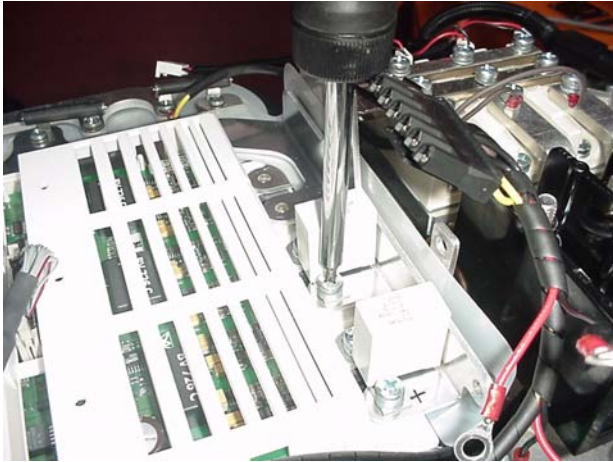

Figure 6-16 Removing the Snubber Capacitors
5. Remove the six Phillips-head screws and washers that secure the three snubber capacitors. Refer to Figure 6-16. Remove the capacitors and attaching hardware.